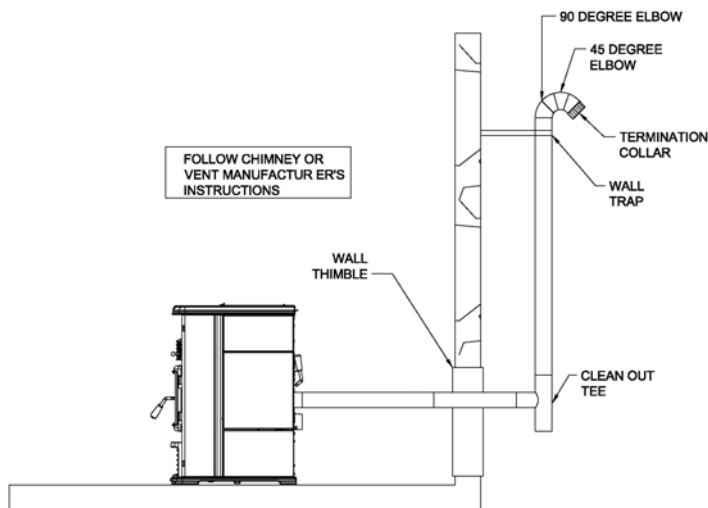

Figure 14
A. HORIZONTALLY THROUGH WALL (refer to figure 14, 15, or 17)